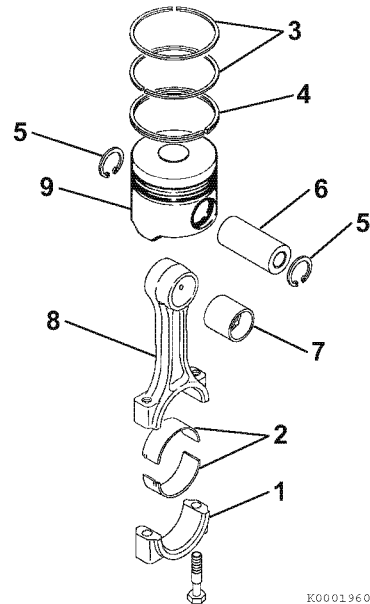

Figure 6-130
2. If removed, install a new wrist pin bushing (Figure 6-130, (7)) using a press and the appropriate service tool. Be sure to align the oil holes.
- Reinstall one circlip (**Figure 6-130, (5)**) into the piston. Ensure the circlip is securely seated in the groove.